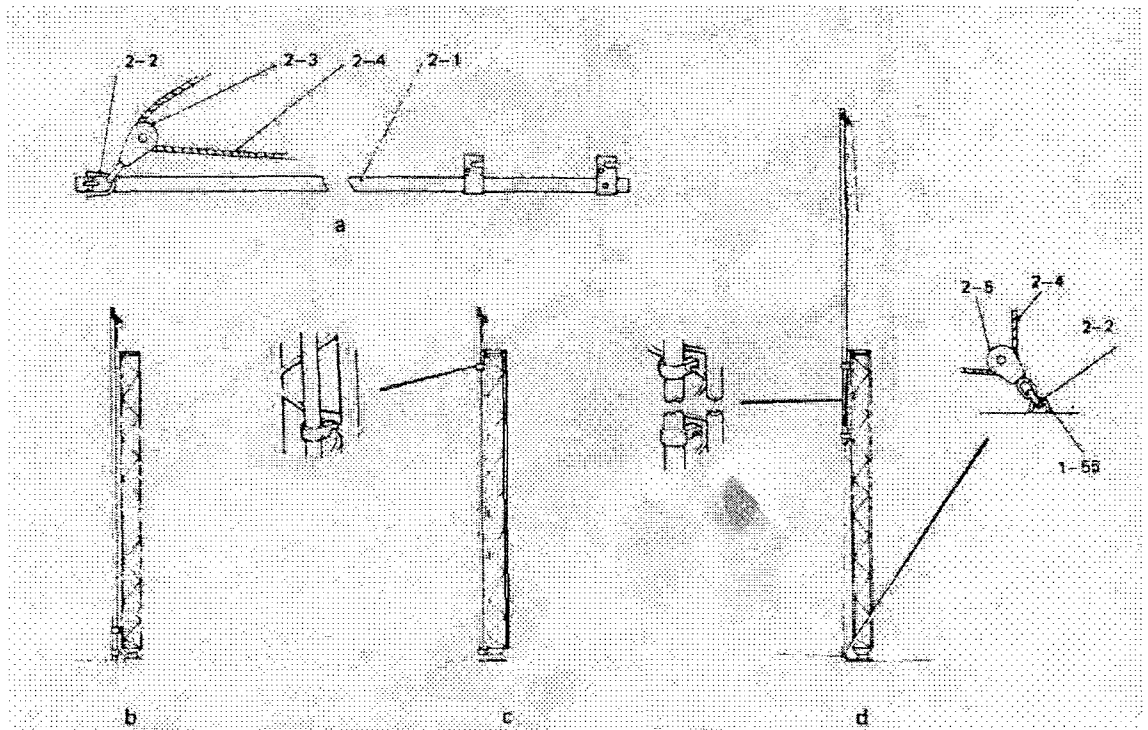

FIGURE 8 – Using the Derrick Pole
Step 11 - Before the next mast section can be lifted into position, the derrick must be secured to the first mast section. Attach the single sheave pulley block (2-3) to the derrick tube (2-1) by use of a D shackle (2-2), and thread the hauling rope (2-4) through the block, as shown in Fig. 8(a).
Lift the derrick into position beside the first mast section, as shown in Fig. 8(b). Fit the single sheave snatch block (2-5) to the hairpin anchor (1-55) in Block A by use of a D shackle (2-2), as shown in Fig. 8(d).
Step 12 - Push up the derrick sliding (upper) clamp as far as the bracing rod approx. 230mm from the top of the mast section. Fix clamp over bracing rod and check that it is securely held in position, as shown in Fig. 8(c).
With the sliding clamp held in position, push up the derrick through the sliding clamp until the derrick fixed clamp is approx. 915mm below the sliding clamp. The fixed clamp is to be clamped to the bracing rod on the mast at this point. When the derrick is in use, the clamps should be NOT LESS than two bracing rods apart as shown in Fig. 8(d). Make-off the derrick backstays to the guy anchor blocks using the shackles and bulldog grips supplied - DO NOT CUT OFF EXCESS ROPE -and lightly tension. The derrick is now ready for lifting the next mast section into position, and will extend approx. 3430mm above the top of the mast.